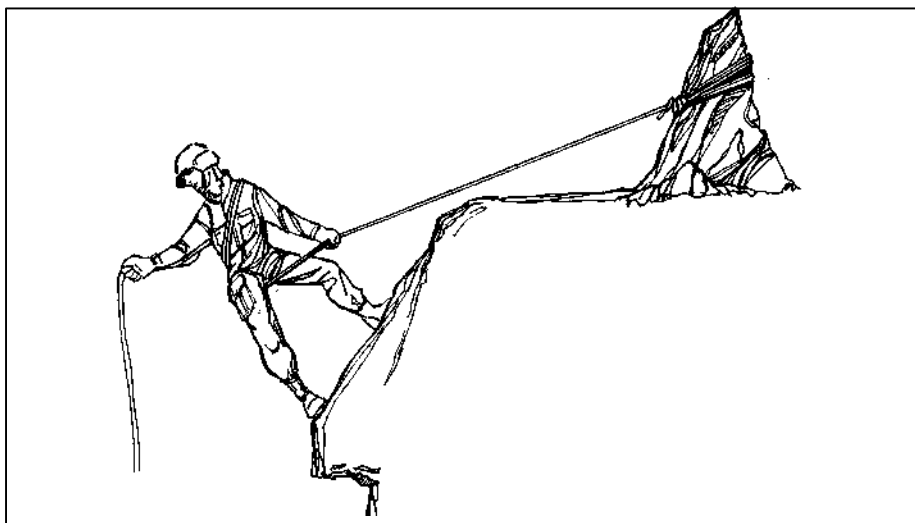

Figure 2-3. Body rappel.
a. **Body Rappel.** Face the anchor point and straddle the rope. Pull the rope from behind and run it around either hip, diagonally across the chest, and back over the opposite shoulder (Figure 2-3). Then, run the rope to the brake hand, which is on the same side of the hip that the rope crosses (for example, the right hip to the left shoulder to